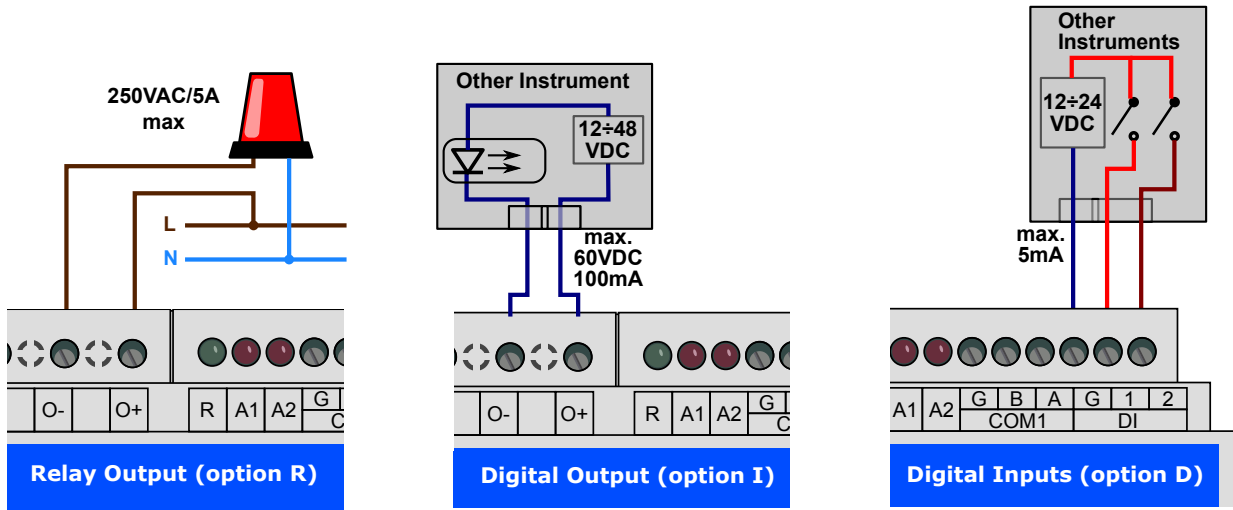

Figure 7: An example of wiring connection for inputs and outputs in PA 144 .
**Digital Inputs (optional)** DI1 and DI2, sensitive to voltage, are using three terminals in  $COM2/DI$  block —  $G$  is common terminal,  $B/1$  is first and  $A/2$  is second digital input. Voltage lower than 3 V applied between  $G$  and digital input  $B/1$  or  $A/2$  is evaluated as inactive state, voltage greater than 10 V is evaluated as active state. On fig. 7 right there is a sample schema for connection of two external switches in series with voltage source of  $24V_{DC}$ .
**Digital Output (optional)** RO1 or DO1 is connected through terminals  $O+$  and  $O-$ . There must be an external voltage source in series ( $24V_{DC}$  is recommended). In case of solid state based DO outputs an external voltage supply polarity must comply with terminal poles (see fig. 7). In case of relay output the polarity can be freely chosen. Loads of maximum power of  $750VA/90W$  or  $3A$  can be controlled directly in  $230V_{AC}$  network.